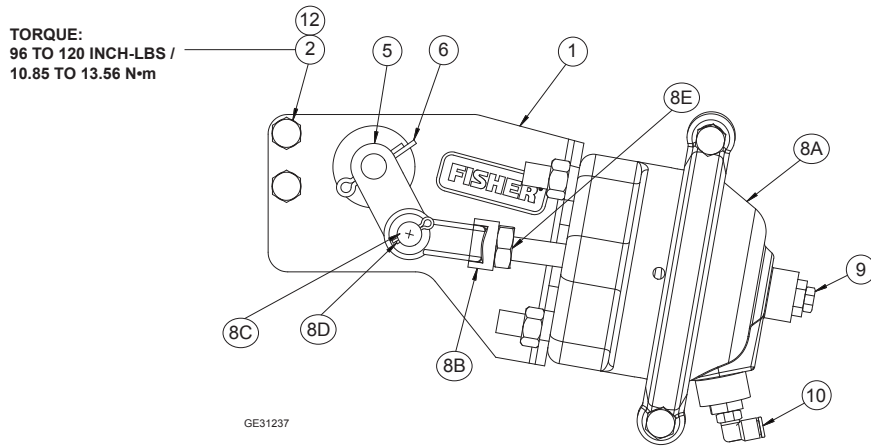

Figure 4. Type P613 for Type C484-24 Internal Valves
A pneumatic supply air valve or switching valve installed at a desired location allows air pressure to be applied to the actuator. The pressure supply moves the clevis (key 8B, Figures 4 to 7) and the internal valve's operating lever (key 5, Figures 4 to 7), opening the valve. Upon loss of air pressure, the valve's operating lever immediately returns to the closed position. Pneumatic supply pressure sources include dry/filtered air, nitrogen or carbon dioxide. Before beginning, refer to Figure 8 for proper cam orientation.
Type P613—Mount the bracket (key 1) to the flanges with 2 bolts (key 2) and 2 lock washers (key 14) using 96 to 120 inch-pounds / 10.85 to 13.56 N•m torque as shown in Figure 4, fitting the operating lever (key 5) on the internal valve shaft.
(Figures 4 through 6)